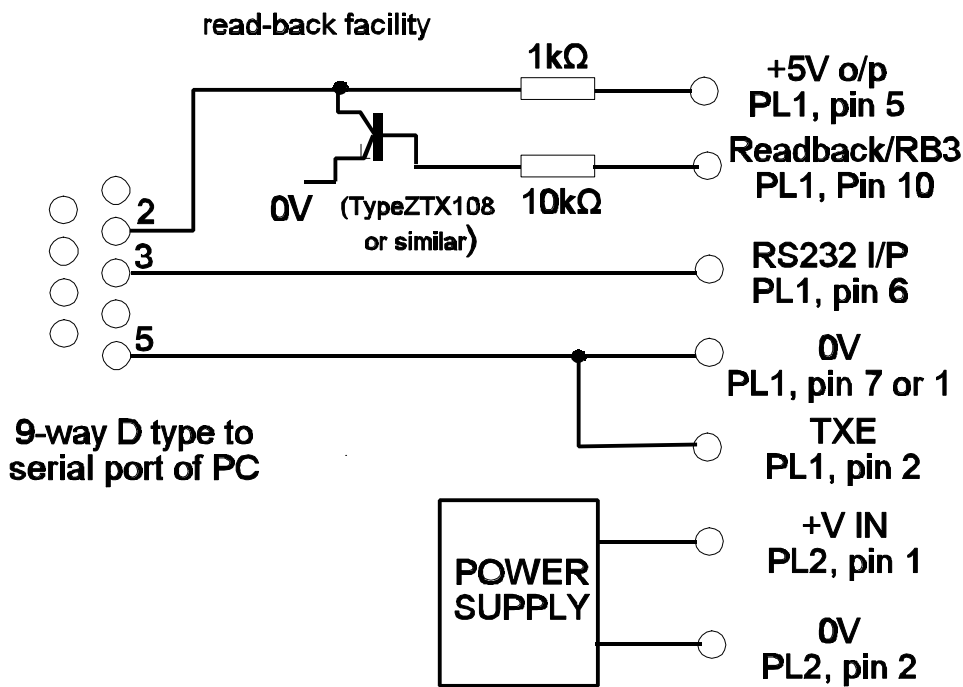

Figure 2 Programming Adaptor
The software supplied with the ST600 transmitter is the STSRn00.exe program. The software can be run on a PC with the serial port connected to PL1 of the ST600 transmitter via a suitable adaptor as shown in Figure 2. If the read-back function is desired, then PL1 pin 10 of the transmitter must be connected to pin 2 of the PC serial port via a buffer circuit. A 1k pull-up resistor to +5V must also be provided as shown.
3. Function F6 (program the unit) is only enabled after the read-back, (refer to Figure 2). This function re-programs the unit connected.